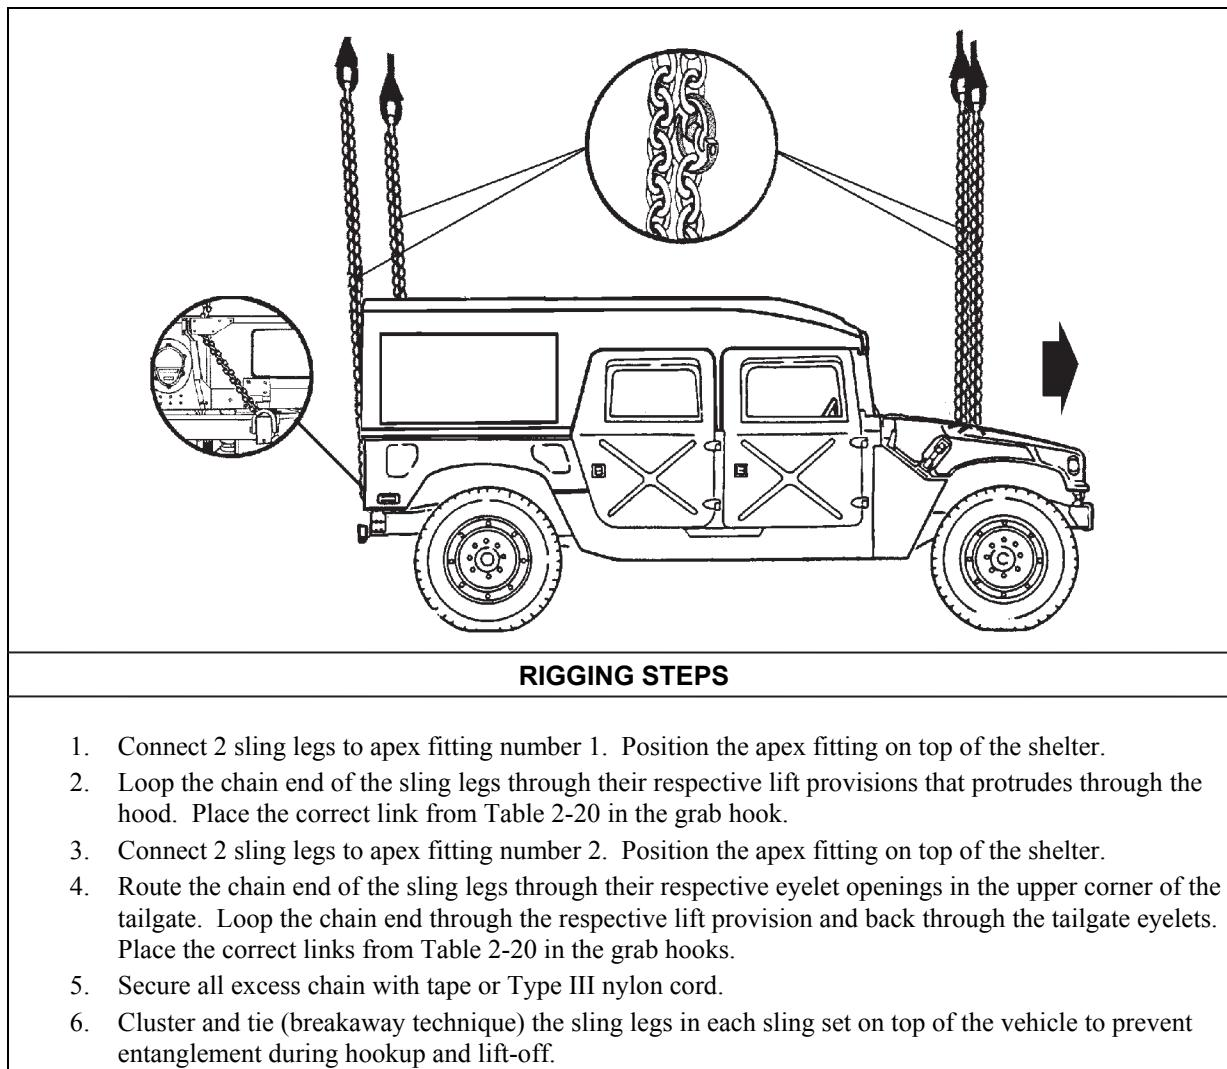

Figure 2-19. Helmet Hardtop (AMTECH) Cargo Bed Cover on M1097A2
- **Rigging.** Rig the load according to the steps in Figure 2-19.